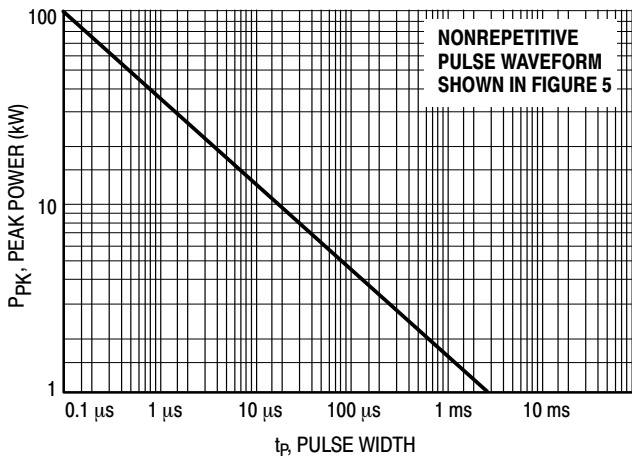
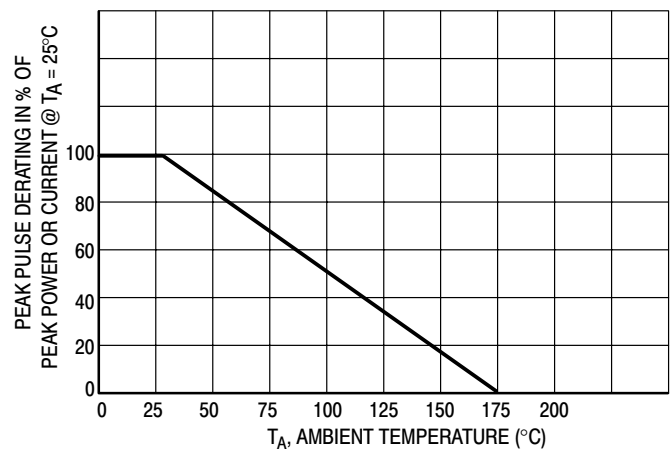
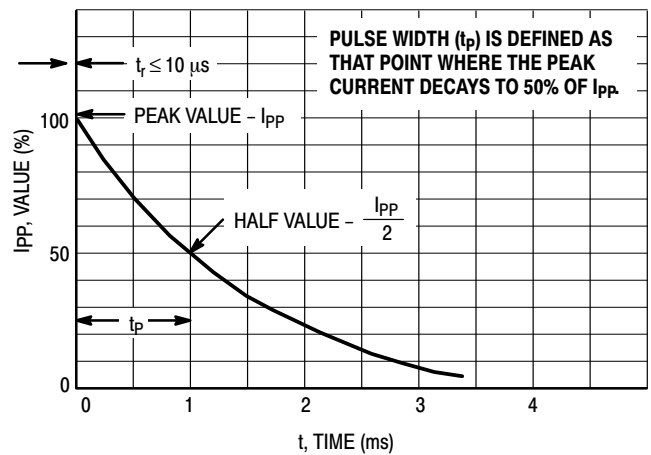
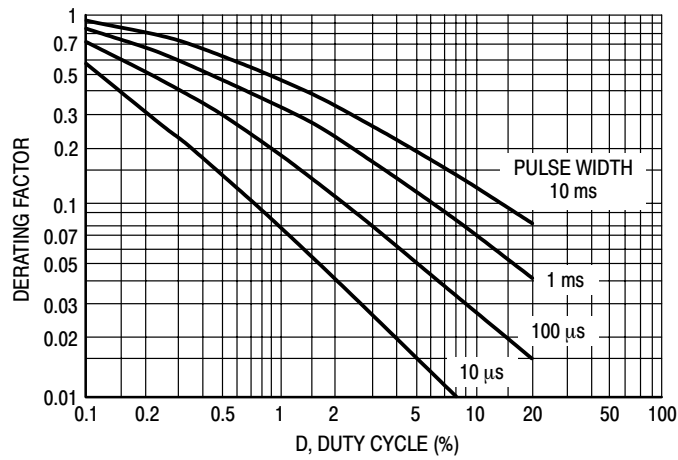

Figure 1. Pulse Rating Curve
Figure 2. Pulse Derating Curve
Figure 5. Pulse Waveform
Figure 7. Typical Derating Factor for Duty Cycle
1. Nonrepetitive current pulse per Figure 5 and derated above $T_A = 25^\circ\text{C}$ per Figure 2.
- Surge current waveform per Figure 5 and derate per Figures 1 and 2.
The data of Figure 1 applies for non-repetitive conditions and at a lead temperature of 25°C. If the duty cycle increases, the peak power must be reduced as indicated by the curves of Figure 7. Average power must be derated as the lead or ambient temperature rises above 25°C. The average power derating curve normally given on data sheets may be normalized and used for this purpose.
At first glance the derating curves of Figure 7 appear to be in error as the 10 ms pulse has a higher derating factor than the 10 μs pulse. However, when the derating factor for a given pulse of Figure 7 is multiplied by the peak power value of Figure 1 for the same pulse, the results follow the expected trend.